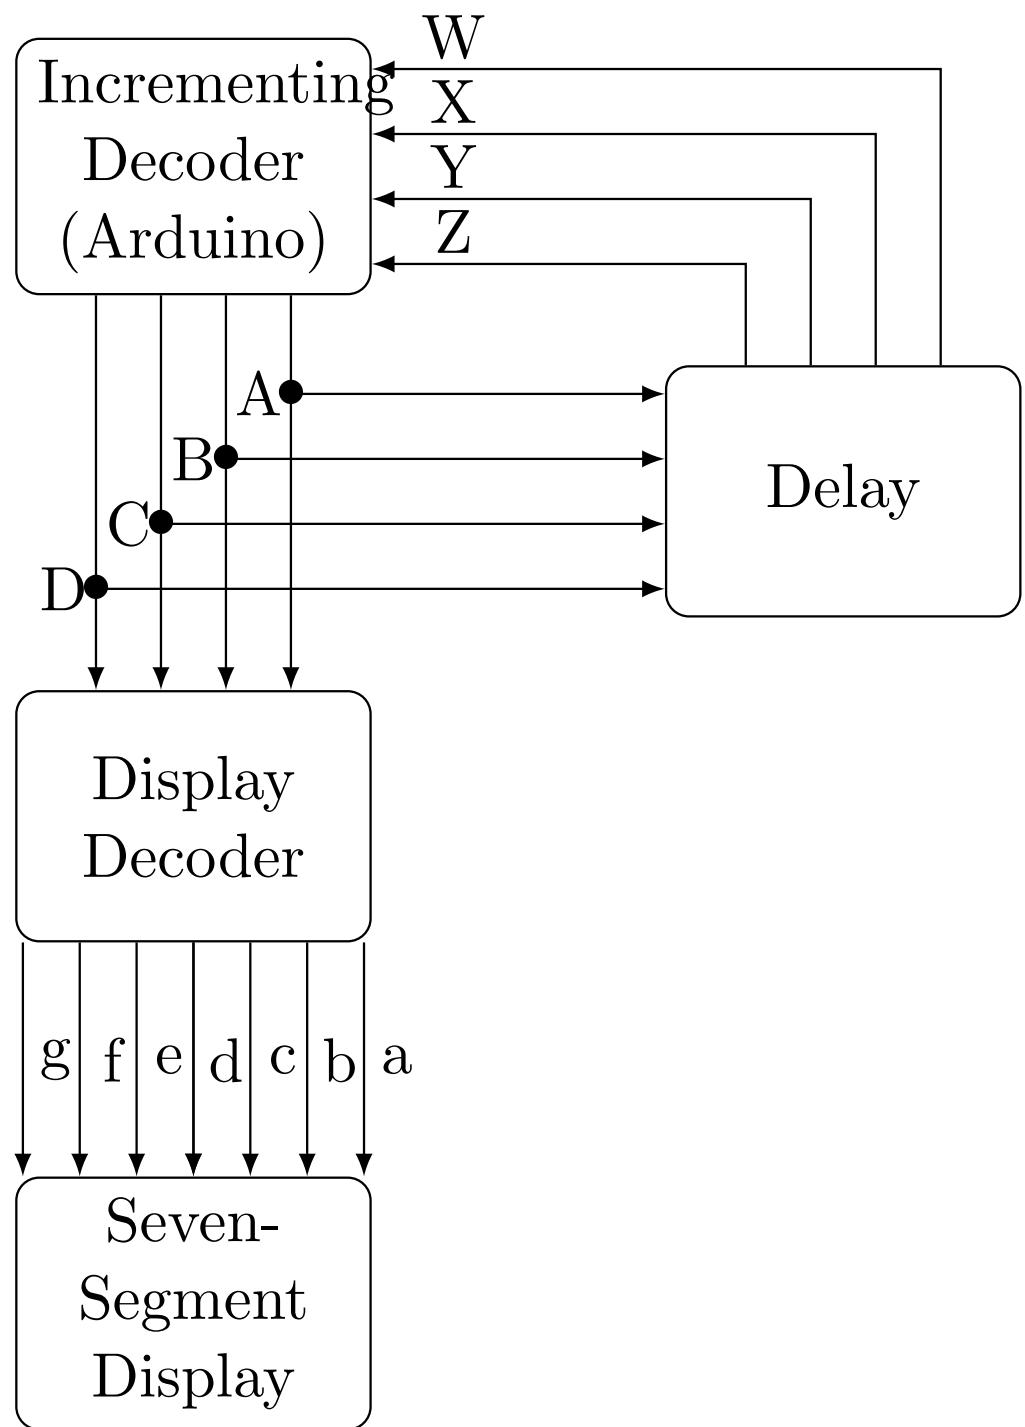
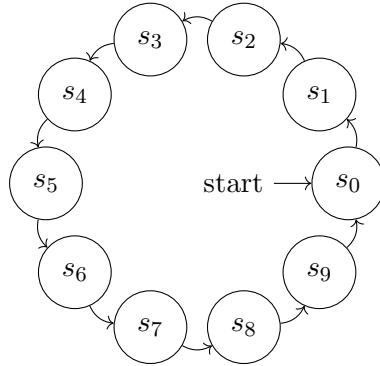
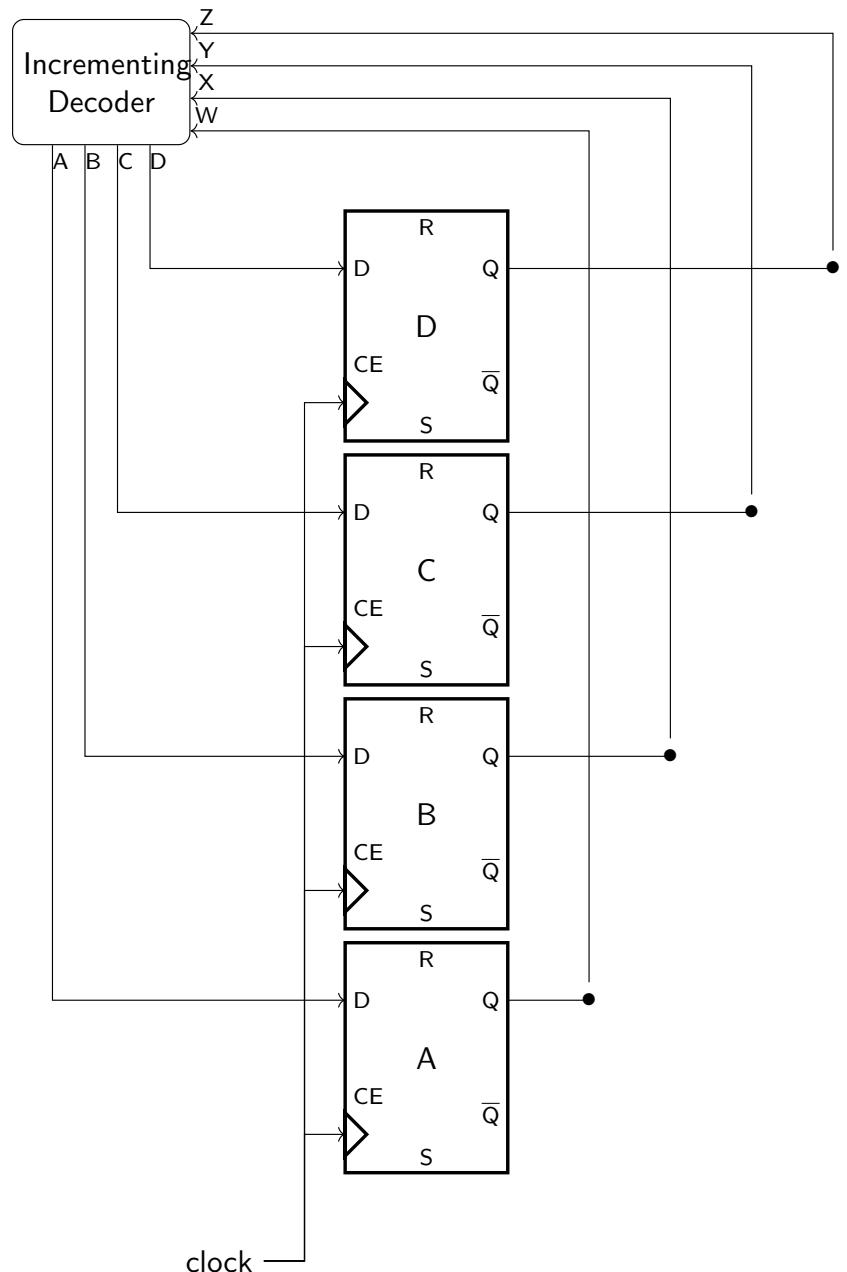

Figure 5.2:
Figure 6.1: FSM for the decade counter
Figure 6.2: Decade counter FSM implementation using D-Flip Flops
2. Connect the Arduino, 7447 and the two 7474 ICs according to Table 5.2 and Fig. 5.2.
3. Realize the decade counter in Fig. 5.2.
The block diagram of a decade counter (repeatedly counts up from 0 to 9) is available in Fig 5.2 The incrementing decoder and display decoder are part of combinational logic, while the delay is part of sequential logic
1. Fig 6.1 shows a finite state machine (FSM) diagram for the decade counter in Fig 5.2
2. The FSM implementation is available in Fig 6.2 The flip-flops hold the input for the time that is given by the clock This is nothing but the implementation of the Delay block in Fig 5.2
For the FSM in Fig 6.1, the number of states is 9, hence the number flipflops required